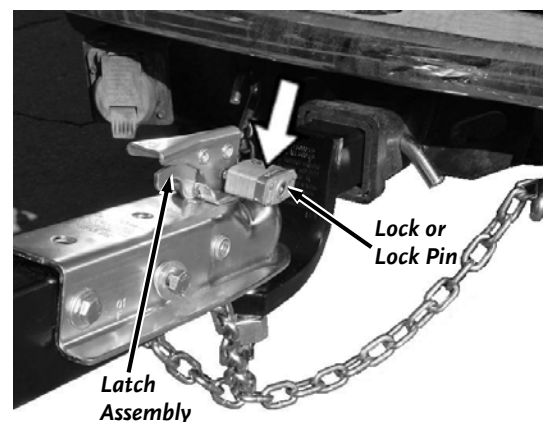

Figure 69
4. For extra safety and security, you may want to purchase a Lock or Lock Pin to install into the Latch Assembly of the Tow-Hitch Package (**Figure 69**).